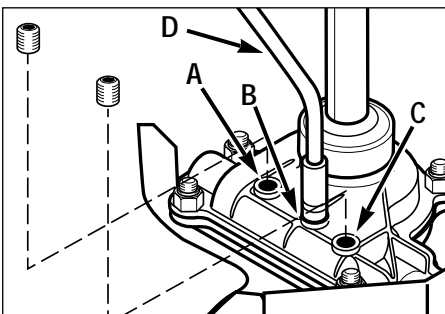

Figure 11: Transmission lubricant check and fill locations.
5. Remove the three threaded plugs (A, B and C, Figure 11) from the transmission.
1. Place the nozzle (D, Figure 11) of a standard grease gun firmly against the rim of the middle hole (B) and add grease until it begins to seep from the bottom hole (A). Reinstall the plug in the bottom hole (A). Next apply grease to the top fill hole (C) until it begins to seep from the middle hole (B). Reinstall the plugs in the middle (B) and top (C) holes.